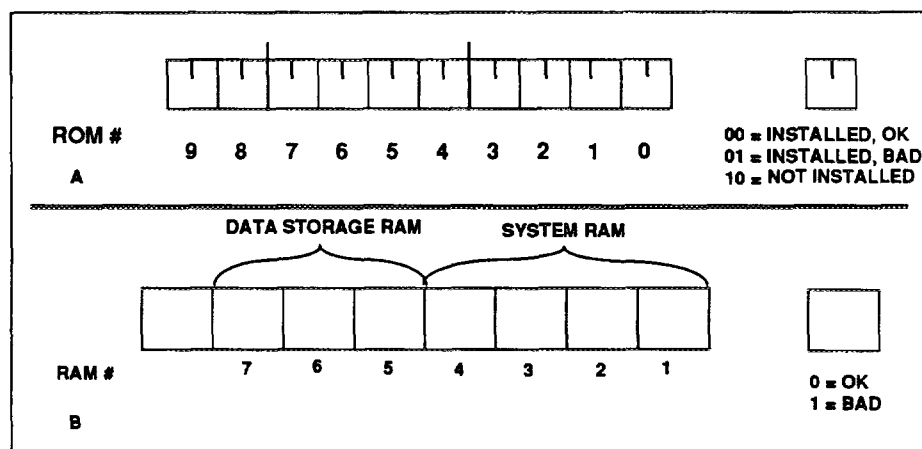

Figure 8-1. TEST Conversion Chart.
The TEST query response consists of two decimal numbers that indicate if a ROM or RAM IC was found to be defective. These numbers must be translated to their binary equivalents to determine the ROM and RAM locations. (If all ROM and RAM are good, the TEST query response will be ROM:0, RAM:0.) After the binary numbers are determined, put them into the conversion chart in Figure 8-1 to identify the IC number. Then, use Table 8-3 to find the correct circuit number and circuit board. The following example shows how to use the conversion chart and Table 8-3. If any ROM or RAM ICs are indicated to be bad, refer this information to qualified service personnel.
2. Insert this binary number in part A of Figure 8-1 (right-justified). Blocks 6 and 2 will be 0|1. This indicates that both ROM 6 and ROM 2 are bad; all other ROMs are good.
2. Insert this binary number in part B of Figure 8-1 (right-justified). Blocks 4 and 2 each contain a 1, which indicates that both RAMs 4 and 2 are bad; all other RAMs are good.